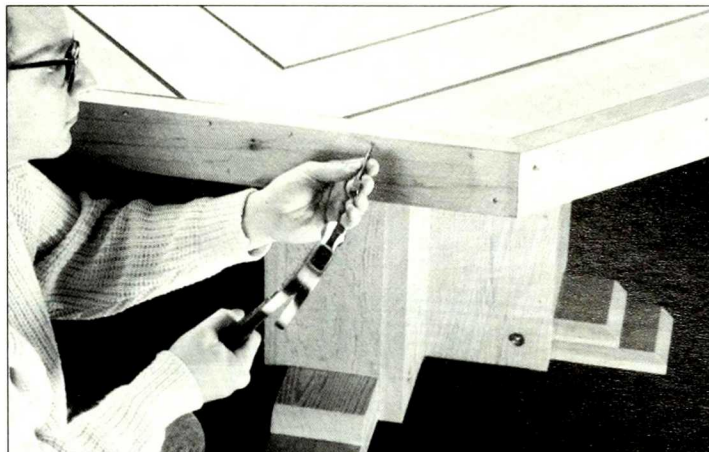

Figure 5: Attach edging with galvanized finish nails to the top boards, toenail the corners, and set below the wood surface.
- Set your circular saw to 22 1/2 degrees. Miter one end of all the edging pieces (K). Align one piece (K) on an outside edge of the top. Mark the length, and cut the second miter. Check the fit and attach the edging to the top with 3-inch galvanized finish nails. Continue this process around the top of the table until all the edging is applied.
- Toenail the mitered corners together and drive a few nails through the sides into the ends of the cleats and spider. Set all nail heads below the surface with a nail set (Figure 5).